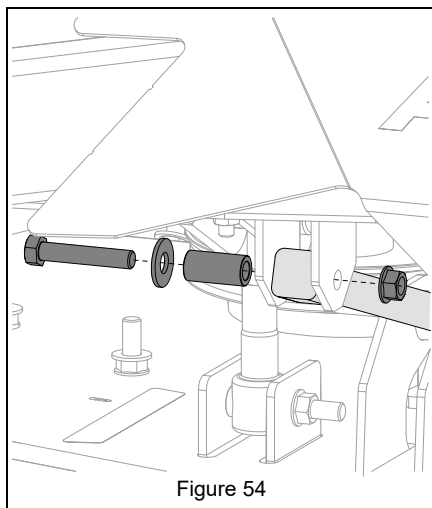

Figure 54
8. Remove hardware retaining drag links to frame. See Figure 54.